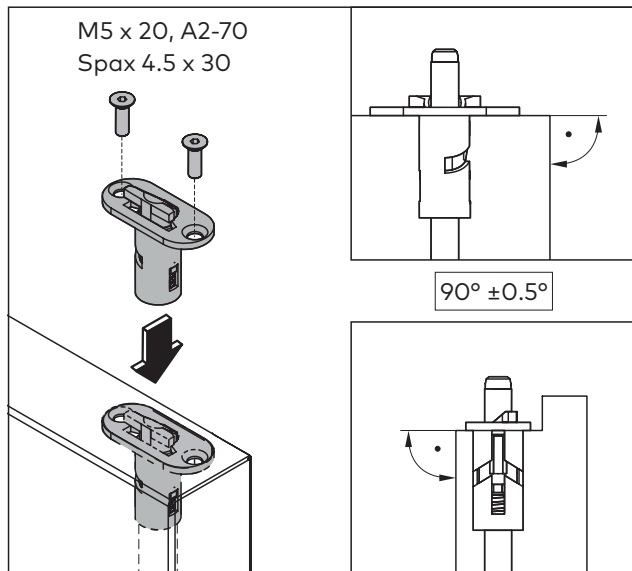

Fig. 49 Mount switch lock
- 11.** Mount the switch lock at the top of the fixed leaf so that the inclined surface faces the door frame (Abb. 49).
8. Mount the switch lock at the top of the fixed leaf again so that the inclined surface faces the door frame (Abb. 49).